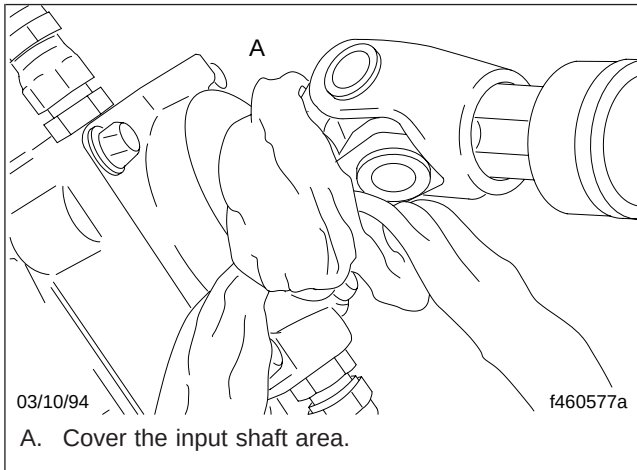

Fig. 4, Shop Towel Covering the Input Shaft
8. Tie or wrap a shop towel around the input shaft and place a drain pan under the steering gear to catch the oil. See Fig. 4.